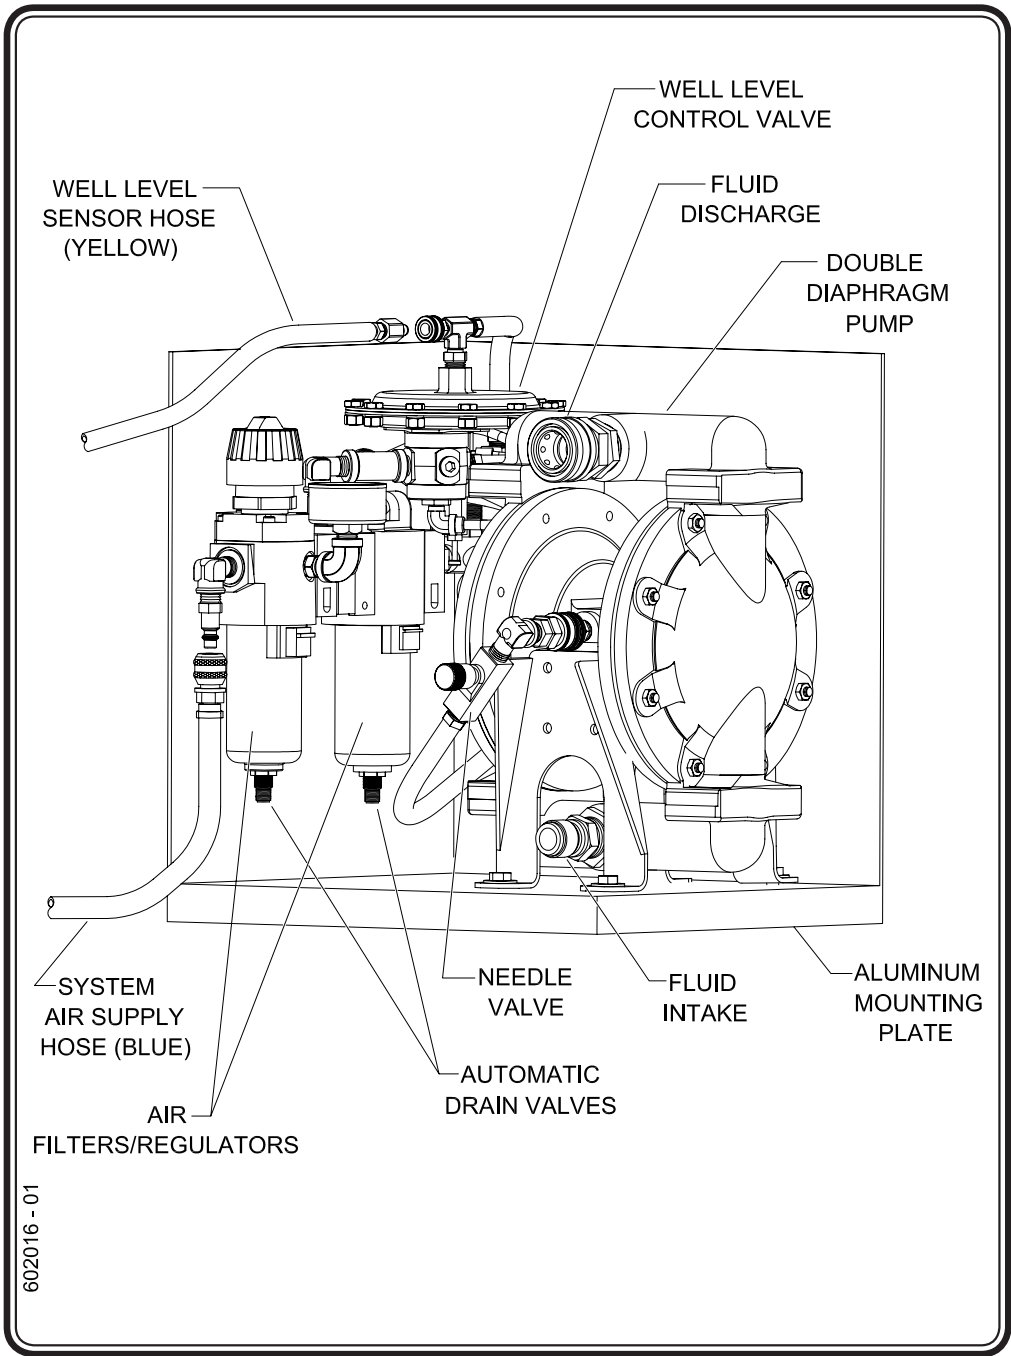

Figure 1 - ADDP System
- **Needle valve** - The **DDP** has an adjustable **needle valve** to control its rate of cycling and quick connect fittings for both power air and fluid in and out. (See Figure 1)
- The first **air filter/regulator (5 micron particulate filter)** has a gauge and quick connect fittings for the compressed air coming from the compressor. This filter has an **automatic drain valve** which activates when the fluid level rises in the filter bowl. (See Figure 1)
- The second **air filter for the bubbler sensor system (0.01 micron oil coalescing filter)** has a **needle valve** to control the air bubbler rate. This filter also has an **automatic drain valve** which activates when the fluid level rises in the filter bowl. (See Figure 1)
- The **well level control valve** is mounted on top of the **two stage filter/regulator** assembly. It uses a **well level sensor hose** down well to sense the fluid level in the well. It supplies air to the **DDP** when the fluid level rises and shuts the **DDP** off when the fluid level recedes. (See Figure 1)
Once the hoses are connected and the system is receiving compressed air (between 40 and 100 psi), fluid can be pumped. The rate of the pumping (cycle rate of the **DDP**) can be adjusted by opening or closing the **needle valve** in the air hose going from the pneumatic circuit to the **DDP**. If the flow rate is low, the **DDP** cycling rate should be fairly low. This prevents the **DDP** from running fast and drawing the fluid down too far allowing air to enter into the **intake hose**. This could cause a loss of suction temporarily until the **DDP** pulls the fluid up the hose again. (See Figure 1)